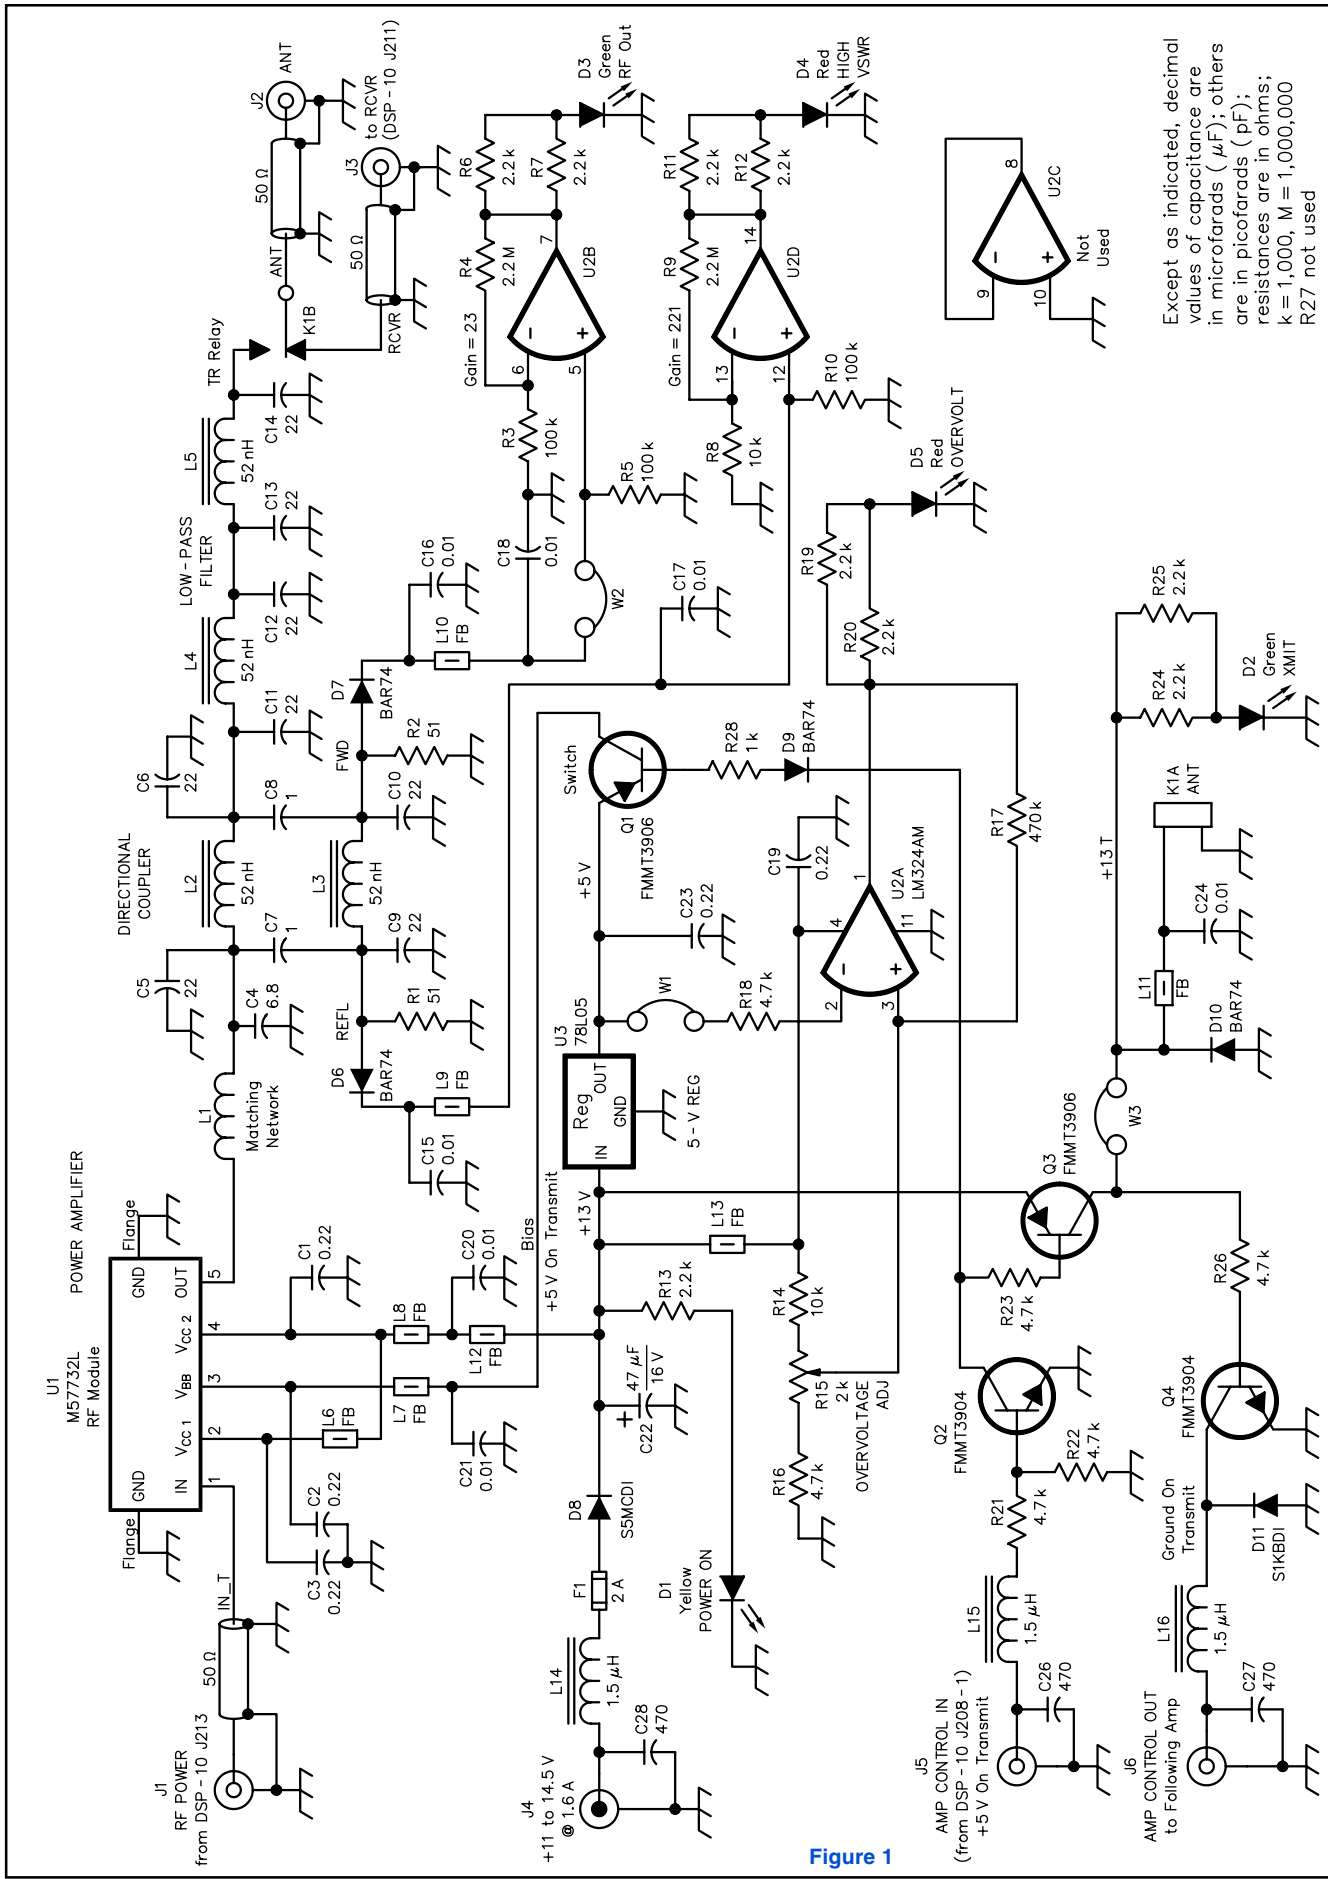

Figure 1
Refer to the schematic in Figure 1. At the input pin of the RF module, U1, we apply 20 mW of drive. Blocking capacitors for the RF input and output ports are included within the module. Bypass capacitors on the three power leads are external, however. Ferrite beads, L6 to L8, prevent problems that might occur if RF gets on the power leads.
Figure 1—Schematic of the 8-W amplifier. All resistors are 5% 1206 chips. These are available in small quantities from Mouser Electronics (Xicon). Unless otherwise noted all capacitors are either 1206 or 0805 chips (either size fits on the board). Capacitors less than 470 pF are NPO, while values from 470 pF and up are any general-purpose ceramic, such as X7R or Z5U. Component sources listed here are generally only a few of several that manufacture equivalent parts. If the amplifier is built without a pre-made PC board, change the chip components to leaded types. Component designations for the LEDs differ from QST style. Parts used in the amplifier are available from one or more of the following sources. Source abbreviations used in the parts list precede the company name: (DK) Digi-Key Corp, 701 Brooks Ave S, Thief River Falls, MN 56701; tel 800-344-4539, 218-681-6674; <http://www.digikey.com>; (ME) Mouser Electronics, 958 N Main, Mansfield, TX 76063; tel 800-346-6873, 817-483-4422; <http://www.mouser.com>; (RS) RadioShack—see your local distributor; <http://www.radioshack.com>; (RP) RF Parts, 435 South Pacific St, San Marcos, CA 92069; tel 800-737-2787, 760-744-0700; <http://www.rfparts.com>.
I opted for simplification, putting alarm lights on for SWR and overvoltage and turned the automatic part over to the operator! A new schematic resulted, not unlike that of Figure 1. I went to the *ARRL Radio Designer*[†] and simulated the directional coupler and low-pass filter. A little playing around with the simulation showed that a single inductor value could be used for both subcircuits.